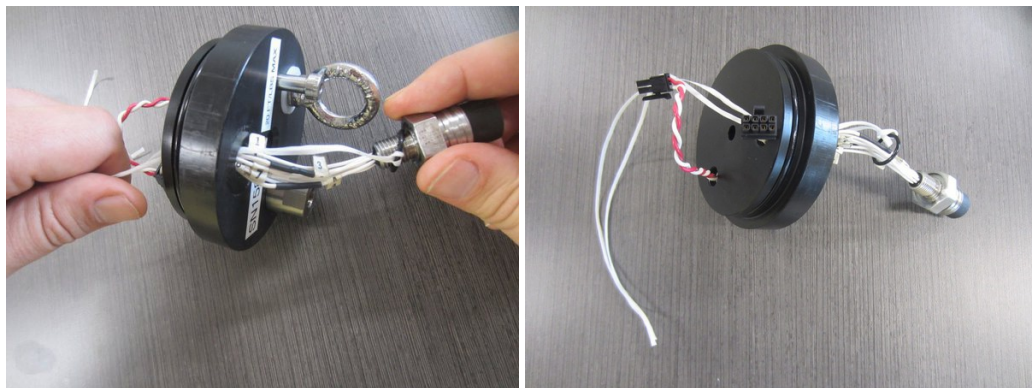

Figure 32: Removal of an O-ring from an MCBH connector (a MicroCTD is pictured).
- **Bulkhead Connector(s):** To remove the connector O-rings, thread string around the O-ring and pass both ends of the string through the threaded hole (Figure 32). Gently pull on the string to pass the O-ring through the hole and around the wiring harness. Reverse these steps to replace this O-ring.